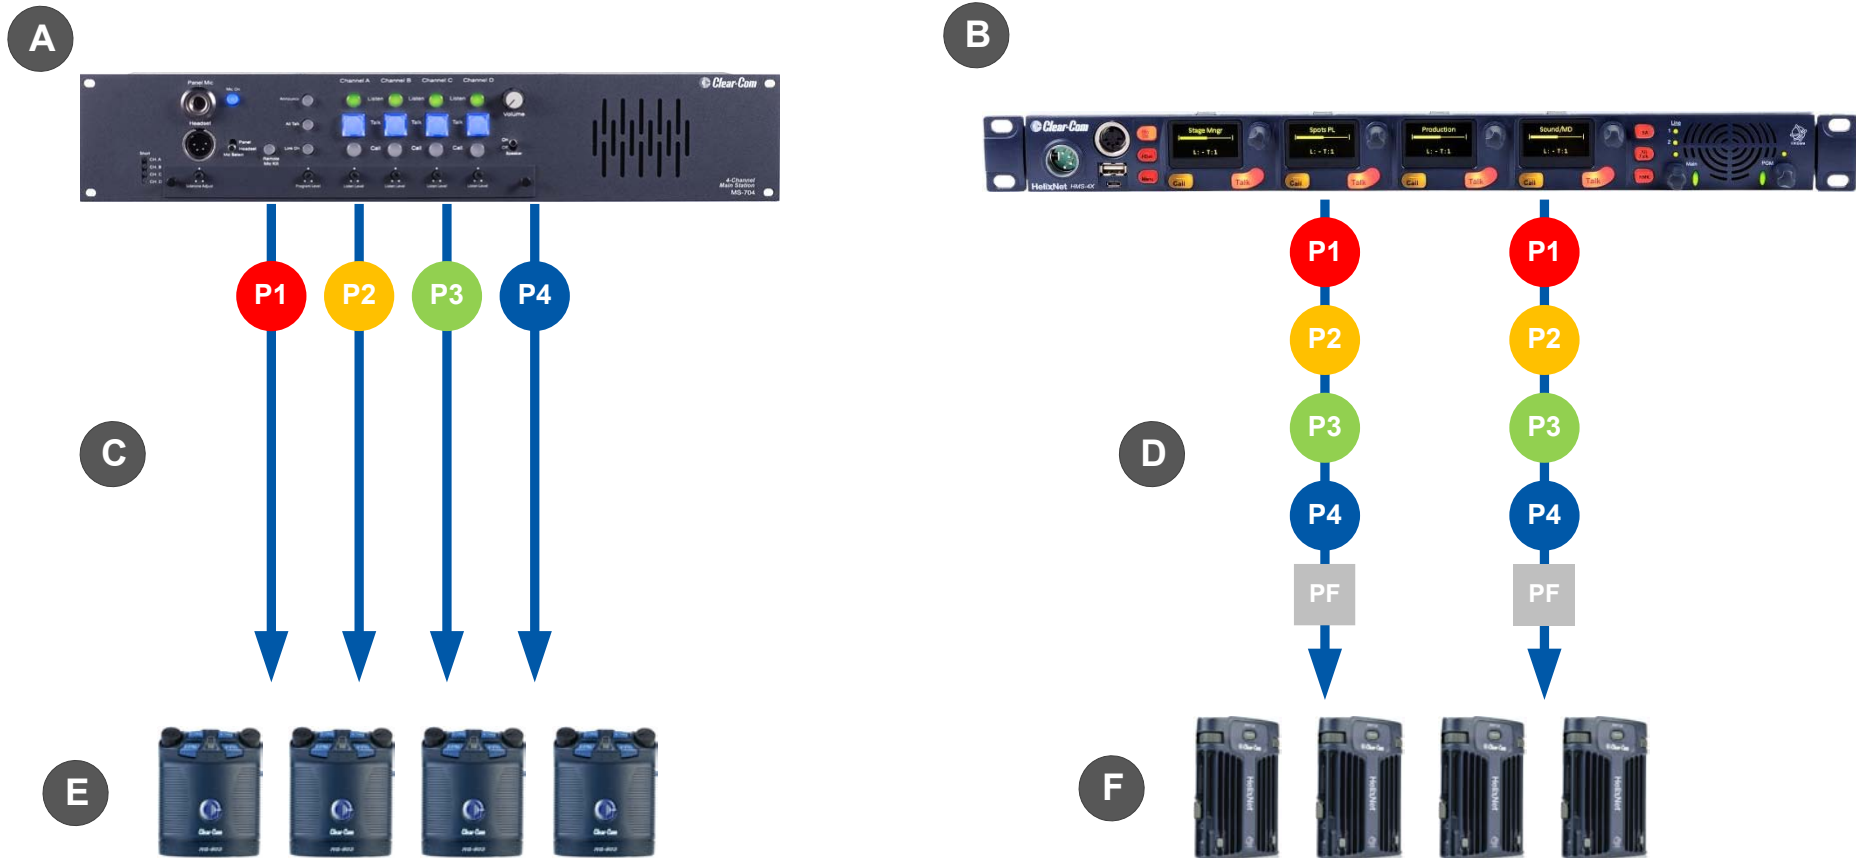

Figure 8: Analog and digital cabling comparison
C	<p>The second layout uses an XLR Bulkhead and a Mult-box (passive (Y) splitters) to combine:</p> <ul style="list-style-type: none"> • A daisy chain (with optional redundancy flyback). • Point-to-point connected beltpacks (using the Mult-box). <p>The complexity and variety of layouts does not restrict physical access to channels.</p> <p>Because HelixNet Partyline is a digital system, the HBP-2X Beltpacks can access any two of the four available channels (plus a Program Feed), however they are connected to the main station (see Figure 8: Analog and digital cabling comparison).</p>